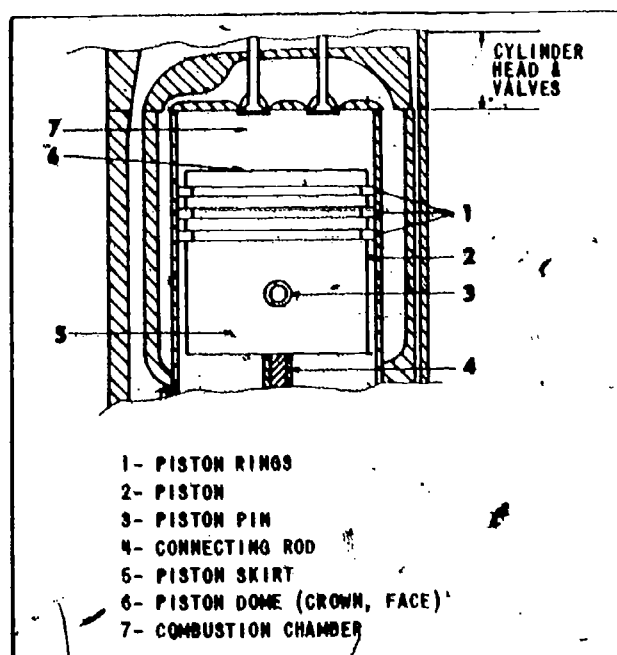

Fig 2-6. Piston and combustion chamber.
- (a) **Piston** (fig 2-6). This is a movable part located in the cylinder bore which transmits the forces of combustion. The piston is cast from different alloys, treated to resist wear and heat, and machined to fit the cylinder bore and to receive other parts. The shape of the piston crown depends upon engine design. The primary functions of a piston are to transmit the forces of combustion and to prevent the escape of expanding gases from the combustion chamber. Rings are fitted in the ring grooves machined on the piston to help seal the chamber, transfer the excess heat to the cylinder wall, and to scrape excess oil from the cylinder wall. A hole machined through the side of the piston provides a point for attaching the connecting rod.